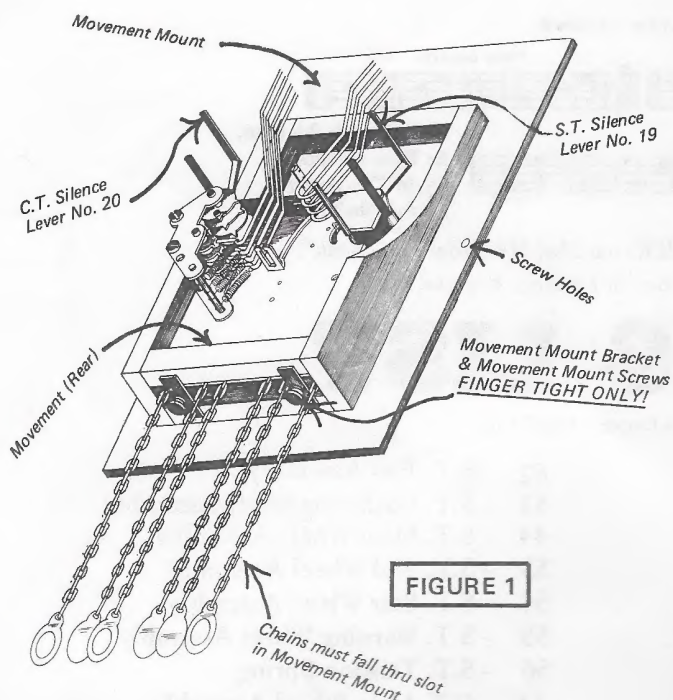

FIGURE 1
- (a) Release chime silence lever No. 20, Figure 1.